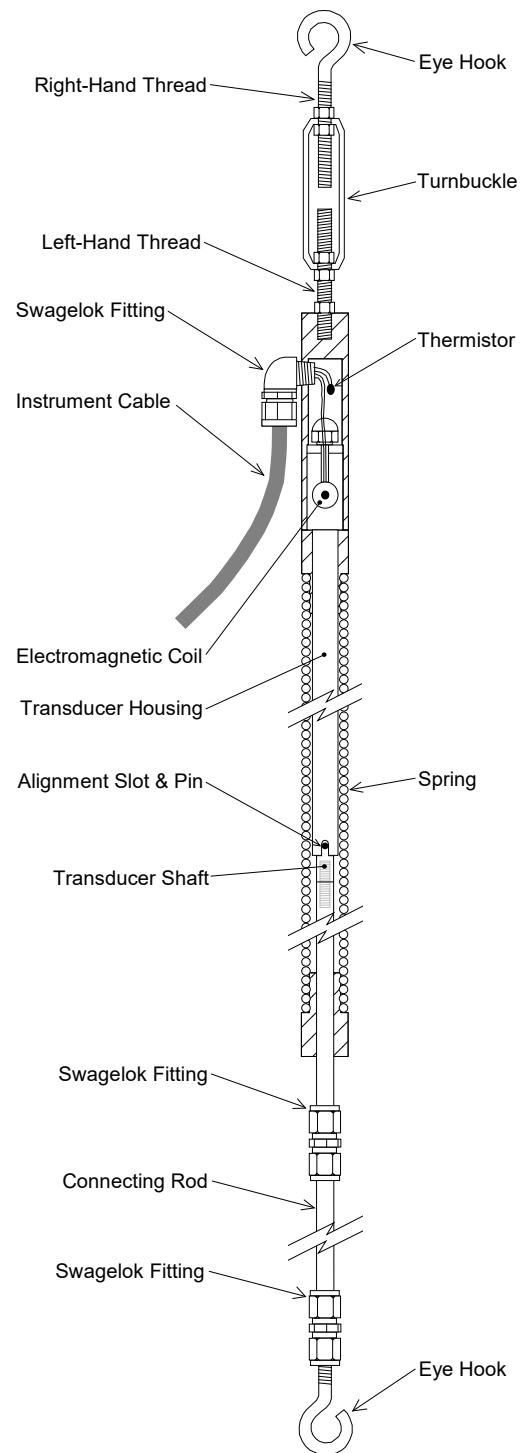

Figure 1 - Model 4425 Convergence Meter
The Model 4425 Convergence Meter consists of three basic components: the two anchor points, 6 mm (1/4") diameter connecting rods, and the spring-tensioned vibrating wire transducer assembly. (See Figure 1.) Essential accessories include: A vibrating wire readout and an installation tool kit (supplied).
- 1) The first step is to unpack all the various components and lay them on a flat surface in their relative positions. (Refer to Figure 1 in Section 1.)